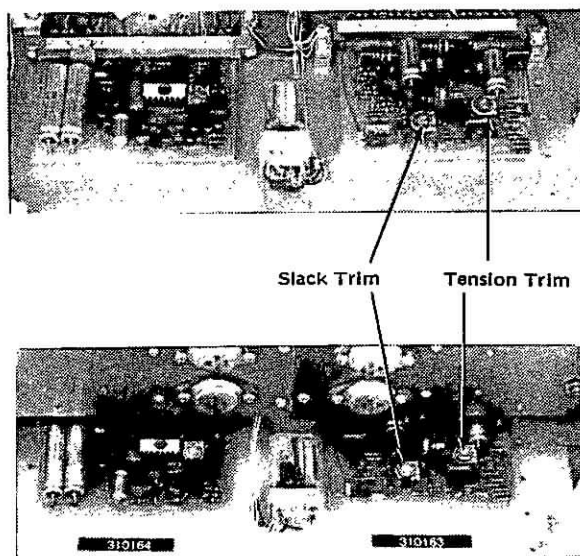

Figure 2-7. Servo and Resolver Boards
- Step 4** Locate the tension trimmer on the SERVO CONTROL BOARD beneath the transport and adjust it for a reading of 10 volts across the power resistor (for 2" tape. 1" tape requires 7 volts). See figure 2-7.
- Step 2** Locate the SLACK control on the SERVO CONTROL BOARD (refer to figure 2-7).